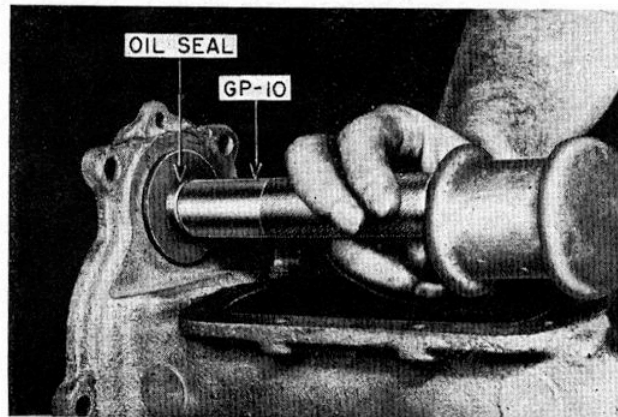

FIG. 40—INSTALLING MAGNETO SHAFT OIL SEAL
- Mount magneto shaft oil seal on shaft with lip toward bearing, and drive into place with Driver GP-10. (See figure 40).